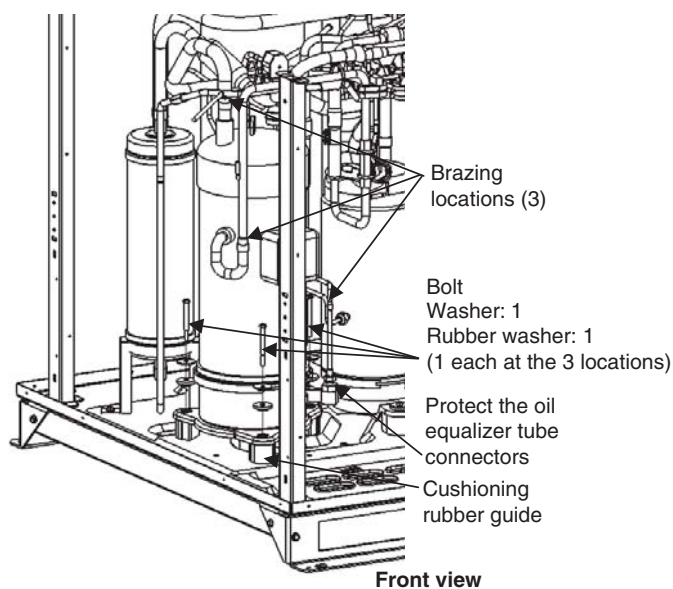

Fig. 28
- (6) Set the remaining cushioning rubber beneath the new compressor leg at the locations shown in the figure 28.
- (7) Remove the bolts which are temporarily fastening the 2 pieces of cushioning rubber, and anchor the 3 compressor legs using the bolts, washers, and rubber washers.
- (8) Insert the pre-shaped tube assembly at the 3 brazing locations indicated.
- (9) Connect the manifold gauge to the high- and low-pressure outlet ports at the outdoor unit where the compressor was replaced. Connect the manifold gauge to a nitrogen cylinder and perform nitrogen gas replacement.
- (10) Perform copper brazing at the 3 brazing locations.
In the same way as during removal, pay particular attention to protection of the oil equalizing tube connector parts shown in the figure 28. An O-ring is mounted inside the oil equalizer tube connector parts. It must be protected and do not lose it.